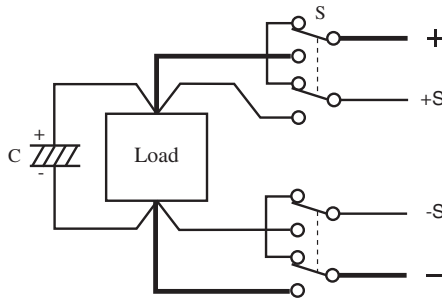

Fig.4-7 Power ON/OFF using mechanical switches
- To turn on/off the power supplied to a load using a mechanical switch, provide additional switches between the sensing wires as shown in Fig.4-7; turn on/off the power and remote sensing function simultaneously. In addition, make sure the OUTPUT switch or POWER switch turned off when turning on/off the mechanical switch.